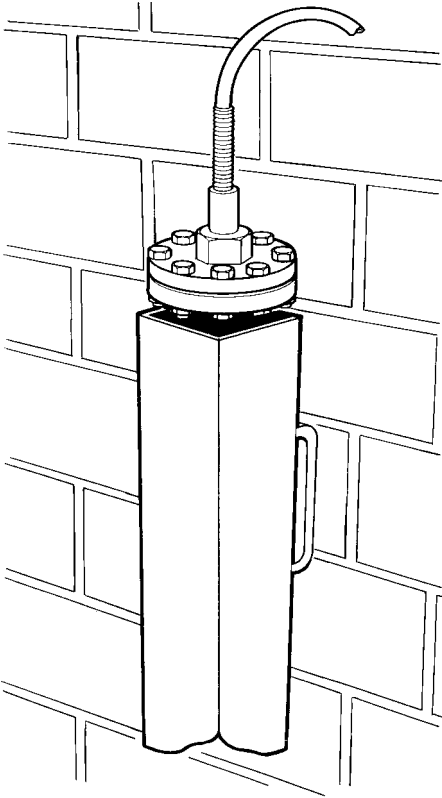

Fig. 5
4.2. The outside sensor should be fitted vertically on an outside wall with the capillary leaving the top as Fig 5.